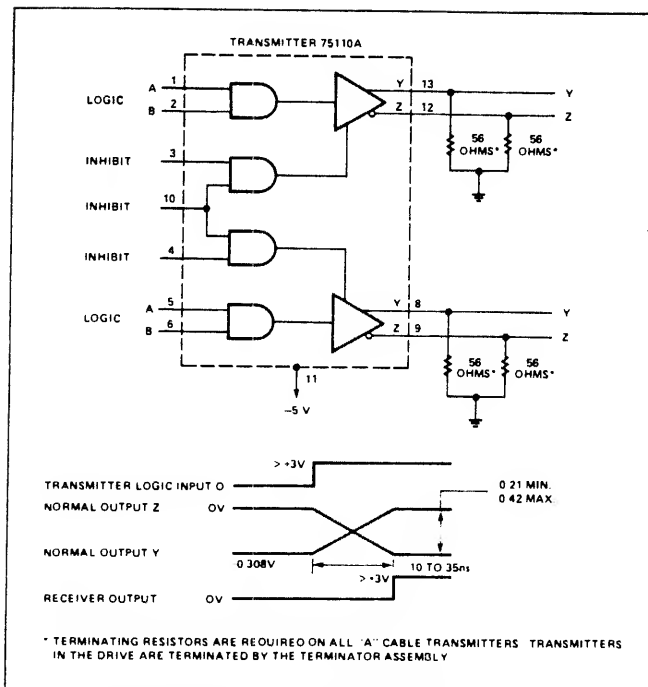
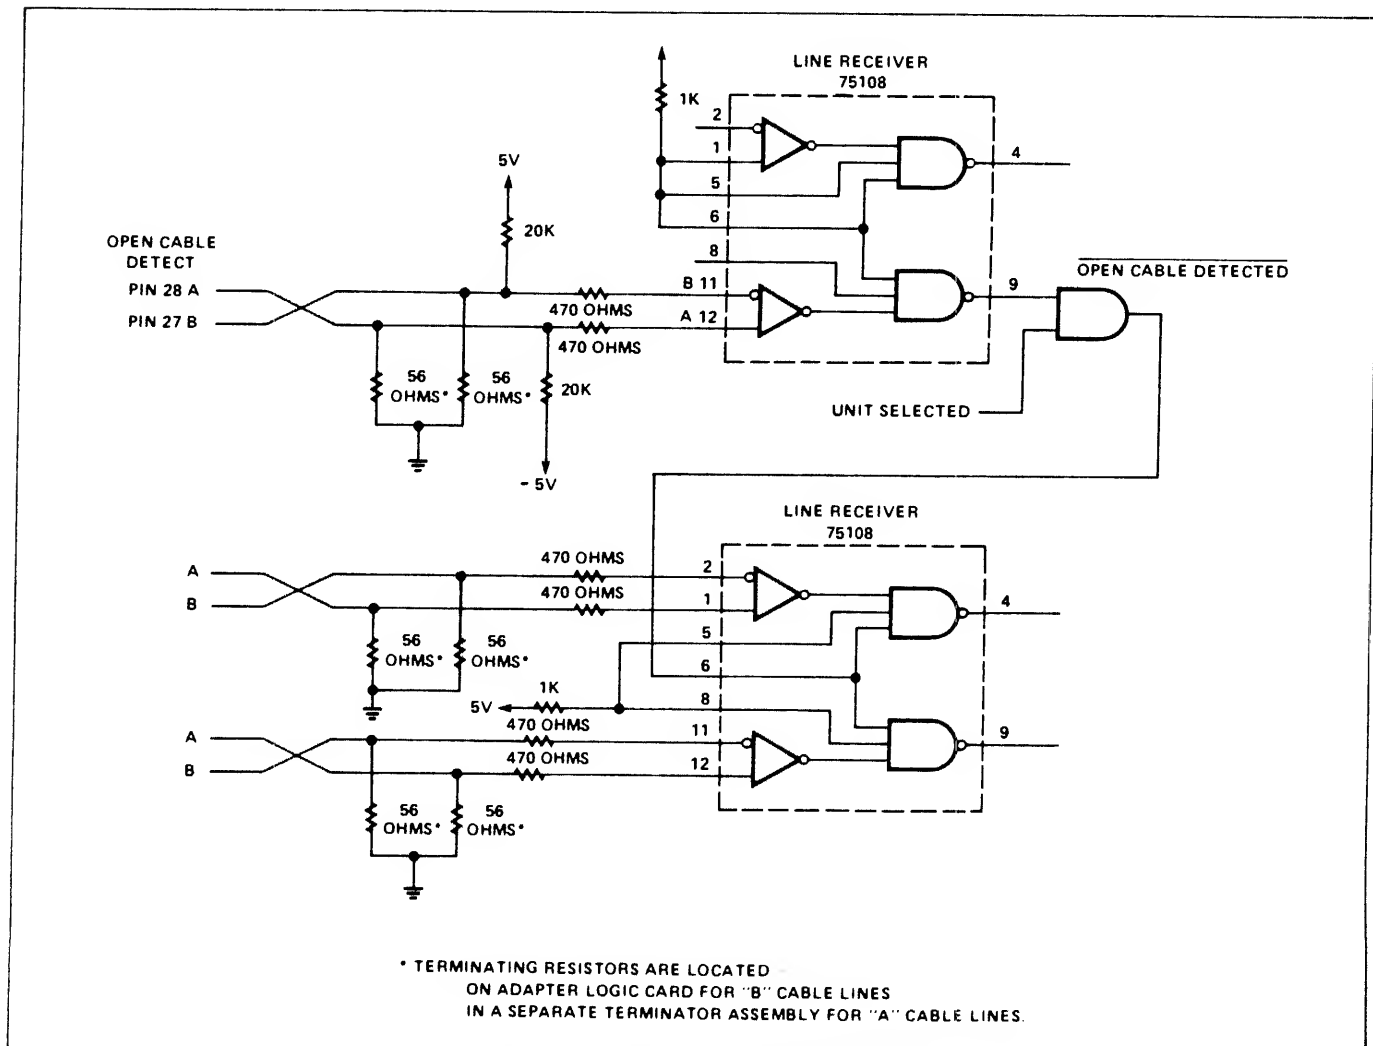

Figure 11.4-2 Control Line Transmitter
Figure 11.4-3 Control Line Receiver
2. Line Transmitter Characteristics The SMD standard line transmitters (Figure 11.4-2) are compatible with the line receivers described below.
Control Signals: see Figure 11.4-2.
3. Input Amplifier (Receiver) Characteristics The drive's input amplifier (Figure 11.4-3) is SMD-standard compatible with the line transmitter described above.
Control Signals: The input, labeled B (Figure 11.4-3) of the receiver is connected to the odd numbered pin of the cable connector, and thus connects to the transmitter pin labeled Z (Figure 11.4-2).